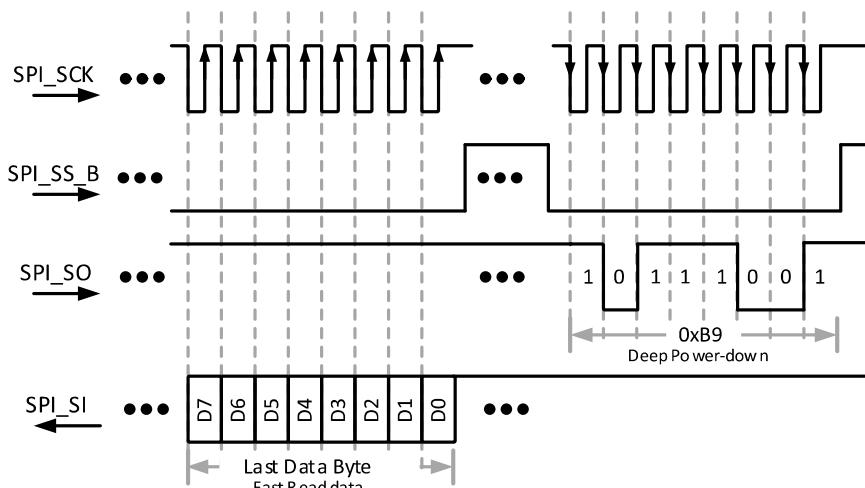

Figure 9.5. Final Configuration Data, SPI Deep Power-down Command
- For lowest possible power consumption after configuration, the PROM should also support the 0xB9 Deep Power Down command and the 0xAB Release from Deep Power-down Command (see Figure 9.3 and Figure 9.5). The low-power mode is optional. The PROM must be powered and ready to be accessed following iCE40 POR
After transferring the required number of configuration data bits, the iCE40 device ends the Fast Read command by de-asserting its SPI_SS PROM select output, as shown in Figure 9.5. To conserve power, the iCE40 device then optionally issues a final Deep Power-down command, hexadecimal command code 0xB9. After de-asserting the SPI_SS output, the SPI PROM enters its Deep Power-down mode. The final power-down step is optional; the application may wish to use the SPI PROM and can skip this step, controlled by a configuration option.